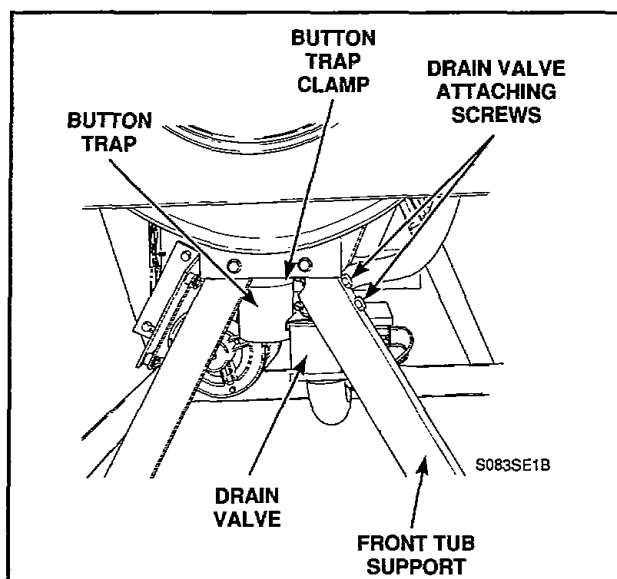

Figure 25
- Loosen clamp holding button trap to outer tub, *Figure 25*.
- Loosen hose clamps and remove hoses from drain valve, *Figure 25*.